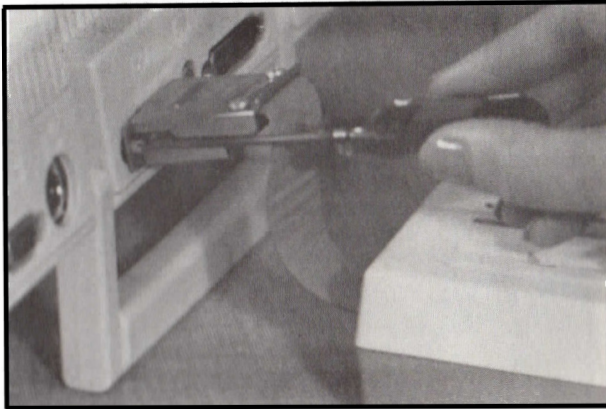

Figure 4. Securing the cables to their respective connectors will ground the cable's shield and reduce TV interference.
5. Secure both cables to their respective connectors using the screws provided as shown in Figure 4.